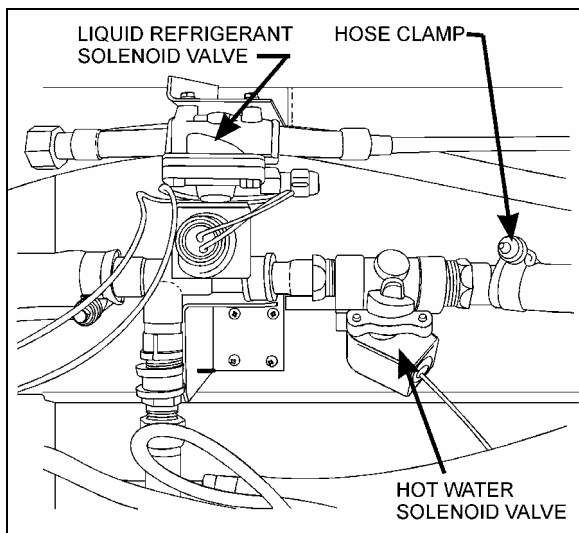

FIGURE 46: CEILING OF THE SPARE WHEEL COMPARTMENT
2. Locate the normally open water solenoid valve on the ceiling of the spare wheel compartment (Fig. 46), disconnect its wiring connector, then connect a 24-volt external power source, using jumper cables, to close valve.
A two-way normally open, internal pilot-operated solenoid valve designed for smooth closing is used to control the coolant flow through the driver's heating unit. It is mounted on the coolant inlet line of the driver's heating unit, and is accessible through the spare wheel compartment (see fig. 46). The valve cannot be manually bypassed.